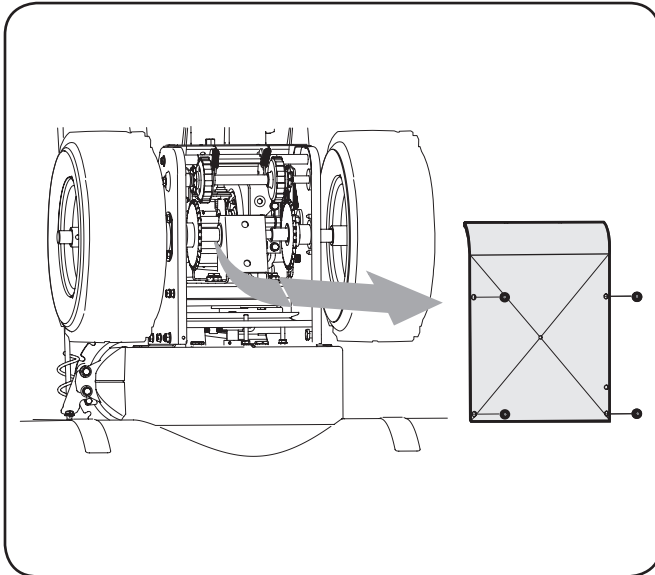

Figure 6-6
2. Remove the frame cover from the underside of the snow thrower by removing four self-tapping screws which secure it. Refer to Figure 6-6.
3. With the snow thrower tipped forward (be certain to drain gasoline or place plastic film under the gas cap if the snow thrower has already been operated), remove the frame cover underneath the snow thrower by removing the self-tapping screws. See Figure 6-6.